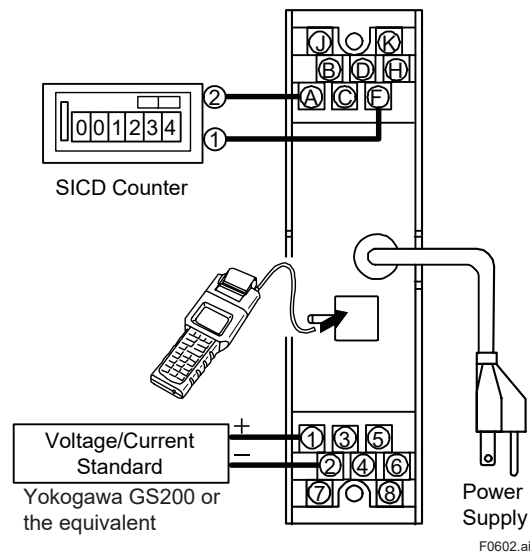

Figure 6-2 Wiring Diagram
- Connect each device referring to Figure 6-2 below.